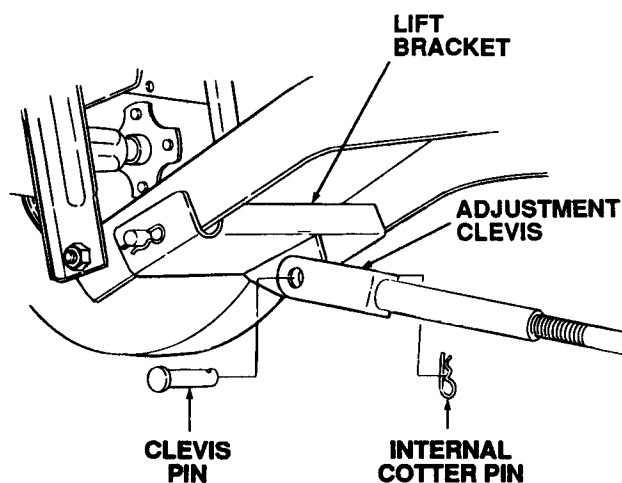

Figure 7-22. Attaching Adjustment Rod to Lift Bracket.
5. Turn the adjustment clevis on the lift rod to align with the hole in the lift bracket tab, then insert the clevis pin (11) and secure with an internal cotter pin (13). See Figure 7-22.